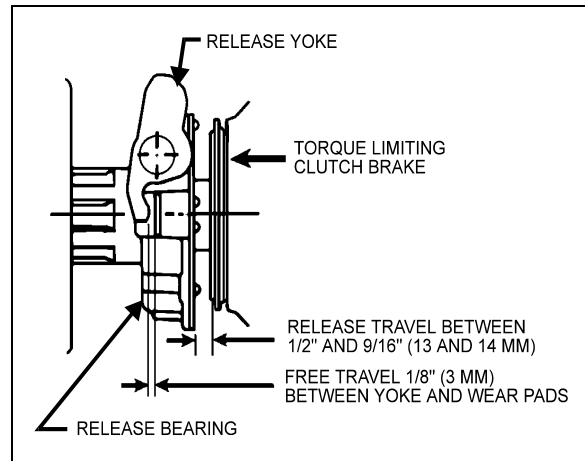

FIGURE 2: CLUTCH ADJUSTMENT 02005
2. Measure the **release travel** (clearance between release bearing housing and clutch brake) (Fig. 2). The clearance should be between 1/2" and 9/16" (13 and 14 mm).
1. Check **free travel** as shown in figure 2. Clearance should be between 1/16" and 1/8" (1,5 and 3 mm).